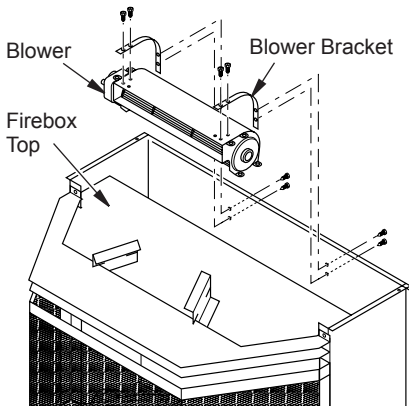

Figure 16 - Removing Blower Brackets from Stove and Attaching to Blower
6. Remove the two blower mounting brackets from the rear panel by removing two screws each (see Figure 16, page 13).
7. Attach the two mounting brackets to blower housing using four screws provided in blower kit (2 for each bracket) (see Figure 16, page 13). Tighten screws securely. Place blower assembly temporarily on top of firebox.
- Using the four screws previously removed, mount blower assembly to stove by reattaching blower brackets to rear panel (see Figure 16). Tighten screws securely.